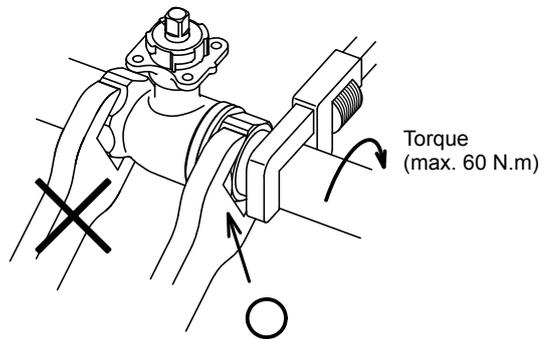

Figure 5. Attaching to pipes
- (4) When connecting pipes, hold the valve body at the screw-in side by a wrench, then screw the pipe into the valve (see Fig. 5).